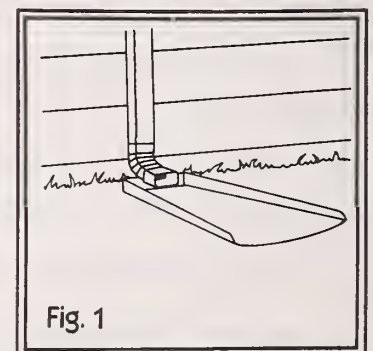
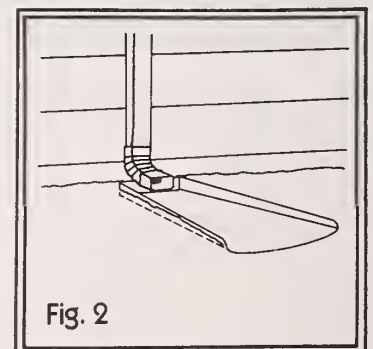
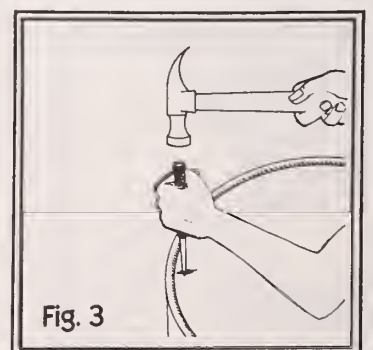

Fig. 1
Fig. 2
Fig. 3
1. Place a splash block on the ground directly under each downspout (fig. 1). Instead of splashing on the ground, the water falls on the splash block and is directed away from the building. For best results, make sure the length of the splash block extends at least 3 feet from the house and that the grade slopes about 6 inches in 10 feet.
2. Check the proper positioning of the splash blocks each time you inspect and clean the gutters and downspouts. Splash blocks will tend to settle into the ground over a period of time (fig. 2). If they've settled, rebuild the ground back to its original surface and replace the splash block.
1. Place the drum flat on the ground, either end up. Using the hammer and steel punch, make a hole in the end near the edge (fig. 3). Insert the
3. Mark the area to be repaired, using the square and a pencil (fig. 1). This mark should be approximately $\frac{1}{2}$ inch from the crack to avoid hitting the nails (blind-nailed) with the saw blades (fig. 2). Carefully adjust the blade of the portable saw to the thickness of the flooring to avoid cutting the subflooring. Place the saw at the center of the end mark, slightly tilted, with the blade resting on the flooring (fig. 3). Make the cut to the corner of the marked area. Cut the opposite end the same way.